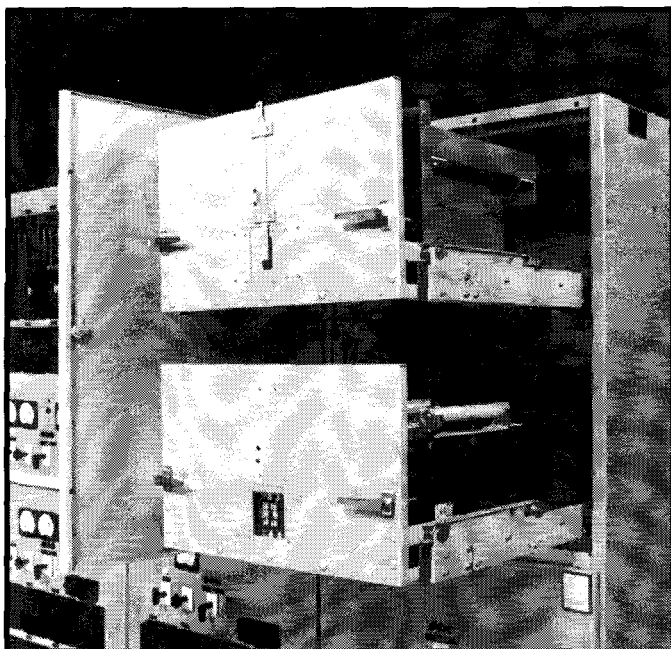

FIG. 4 TYPICAL AUXILIARY WITH DRAWERS IN DRAW-OUT POSITION
- A. The transformers or draw-out primary fuses are mounted in separate drawers in the auxiliary compartments. (See figures 4, 5, & 6.) They are adjusted in the factory and shipped installed in the switchgear.